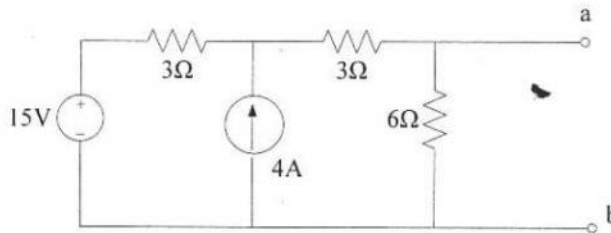

Figure 5(b)
- b. Find the Norton equivalent circuit for the circuit shown in Figure 5(b) [10]